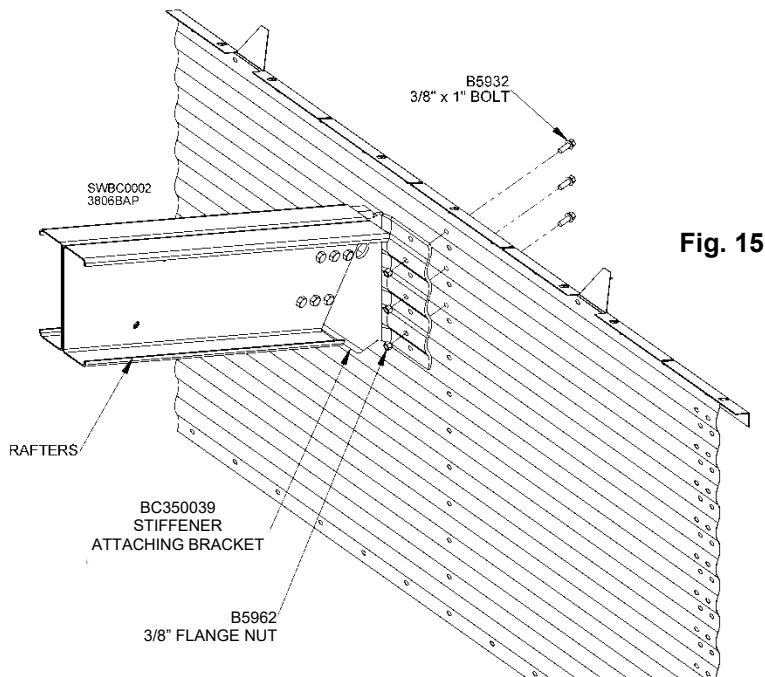

Fig. 15
Lift stiffener attaching brackets to attachment locations (top of brackets flush with sidewall sheet) and secure each bracket using three (3) 3/8 x 1" bolts and 3/8" flange nuts. Insert bolts from outside of bin sheet. See Fig. 15. Tighten these bolts at each location.